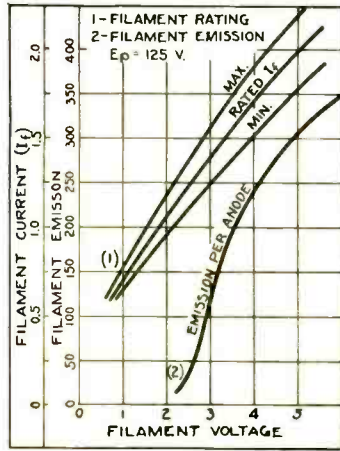
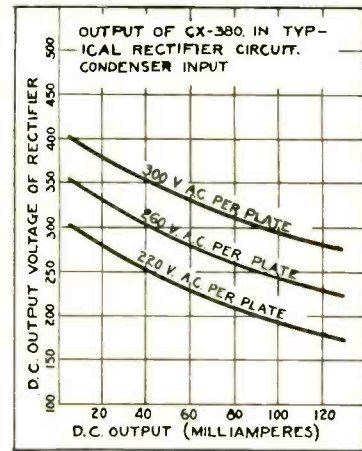
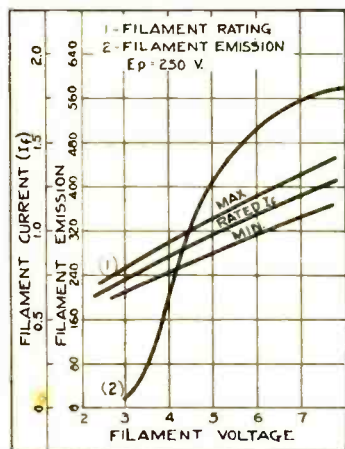
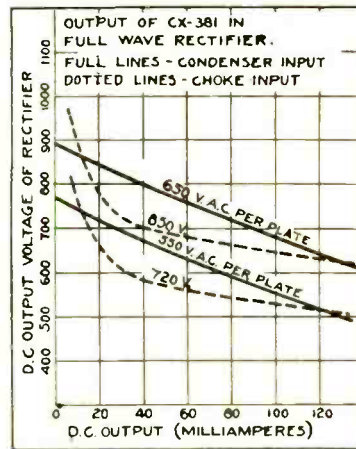

Fig. 5.
Fig. 7.
Fig. 9.
Fig. 11.
appear to be large enough to be of importance, but investigation shows that it is the result of reduced tube losses, the tube operating at an appreciably lower temperature with the choke input. (Further information on this point will be given in a second article.) Also the regulation is better with this arrangement, except at very low outputs, than with the condenser input, as shown by the curves of Figure 11, and by a comparison of the curves of Figures 7 and 8.
Fig. 5 shows the average filament current and average emission for this tube. It is evident that the tube can be operated slightly below rated filament voltage without affecting the output, as the change in emission current, above 4.0 volts on the filament, is small. These emission readings were also taken on the oscillograph, as it is not possible to allow the very heavy currents indicated to flow steadily for an appreciable length of time.
Figure 7 shows the voltage at the input to the filter with the usual filter arrangement. To obtain the output voltages the IR drop due to the filter
Figure 8 can be compared with Figure 7 showing as it does, the higher transformer voltage required by the choke input circuit, and also the superior regulation at current outputs above 20 m.a. As a matter of fact there is scarcely any change in output voltage from 25 m.a. to 125 m.a. although the IR drop in the filter chokes, if large, will impair this performance to some extent, although no more than in the case of the condenser input, Figure 7. In other words, if both Figures 7 and 8 were replotted to show the output voltage at the terminals of a filter having 1,000 ohms resistance, both would show a greater slope, but the curves of Figure 8 would still be superior.
In Figures 9 and 10 data similar to that presented on the CX-380 in Figures 5 and 6 is shown for the CX-381, while Figure 11 shows the comparative performance of a full wave rectifier using two type CX-381 tubes with the condenser (full lines) and choke (dotted lines) input circuits respectively. In a later article the effect of the change in filter design upon the ripple voltage in the output circuit, and the distribution of losses with especial reference to the energy dissipated in the tube, will be considered.
* These values of d-c voltage and current from the CX-380 output curves shown in Figs. 7 and 8.